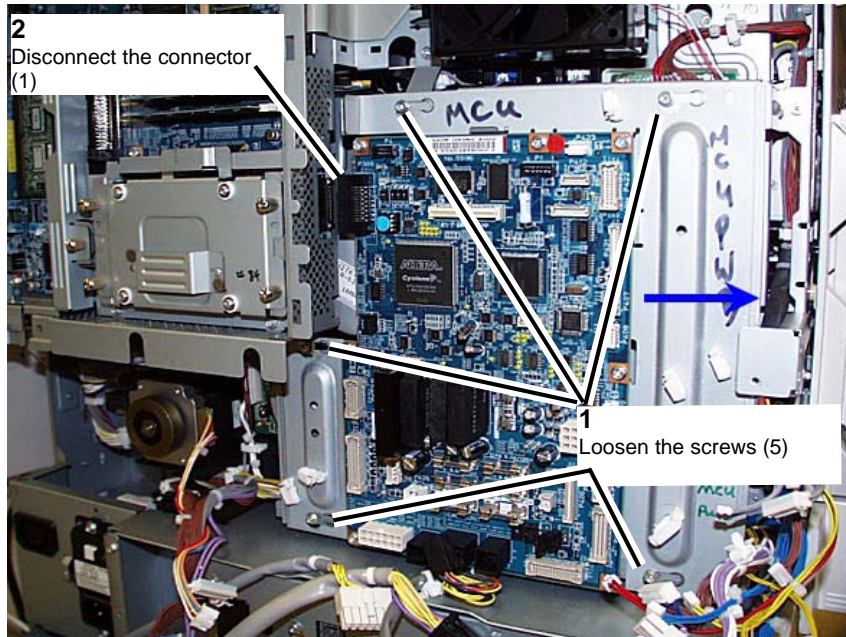

Figure 3 Disconnecting the P 389 connector on the MCU PWB
5. Loosen the screws (5) on the MCU PWB and slide the MCU to the right to disconnect the P 389 connector. (Figure 3)